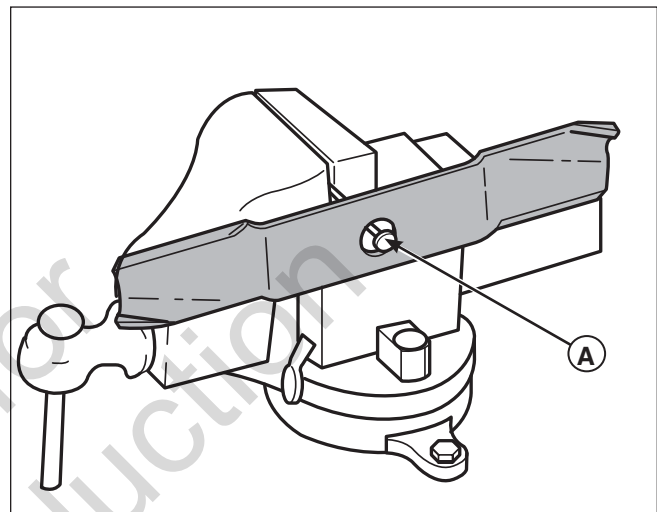

Figure 12. Balancing the Mower Blade
2. See Figure 12. Put the mower blade on a nail in a vise and turn the mower blade to the horizontal position.